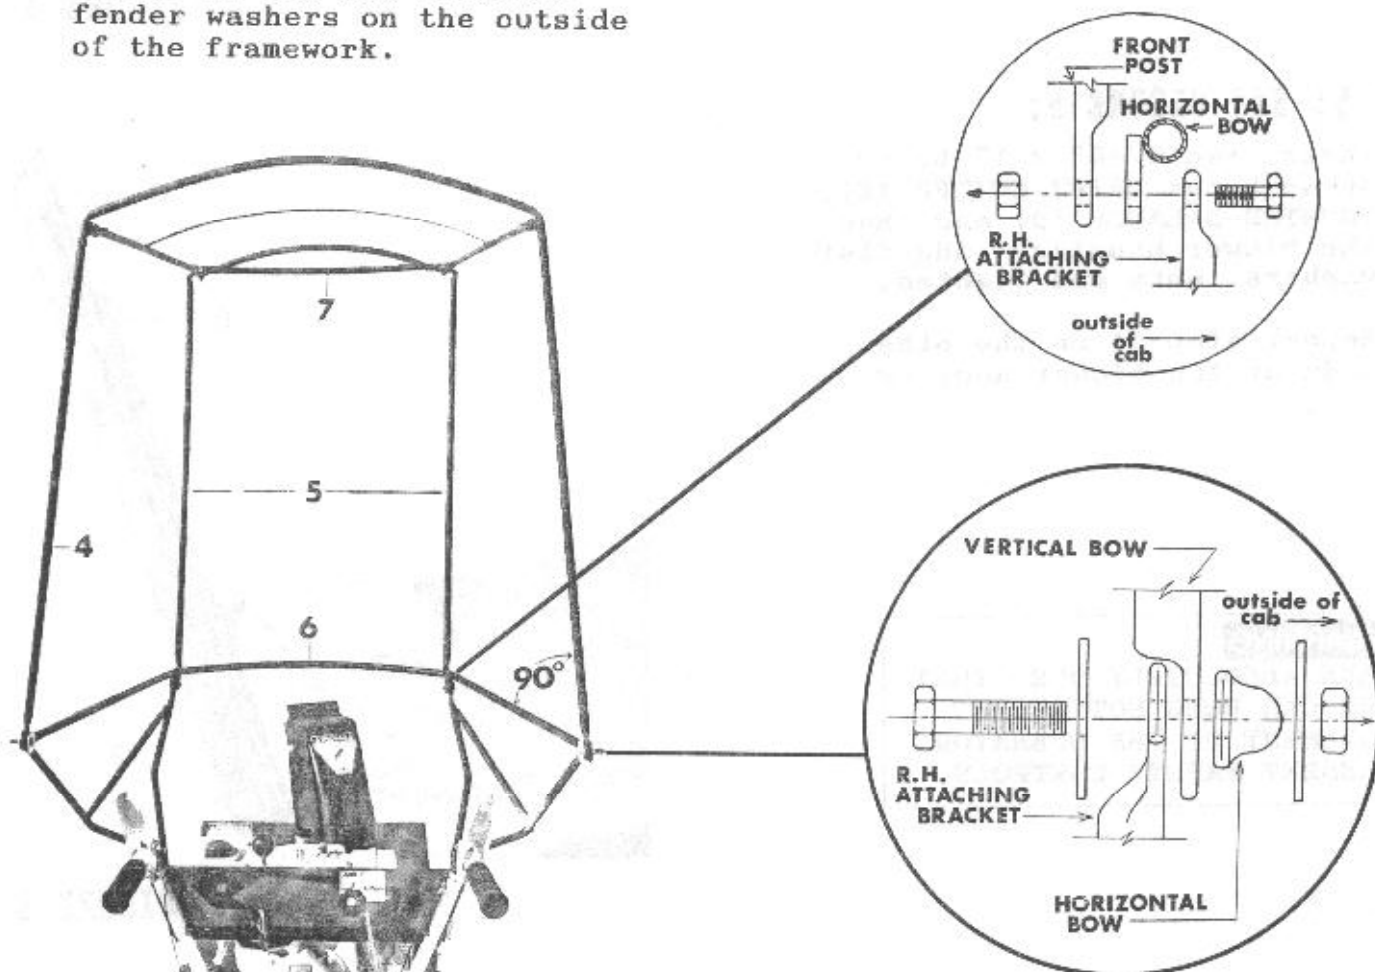

FIGURE 3
STEP 3; SEE FIGURE 3:
- A. Attach the HORIZONTAL BOW (6) and FRONT POSTS (5) to the brackets by using two bolts and locknuts. The mounting tabs on the horizontal bow should be between the attaching brackets and front posts with the attaching brackets on the outside. Be sure the top of the front posts are pointed towards each other. Keep the bolt heads on the exterior of the enclosure.
- B. Mount each leg of the REAR VERTICAL BOW (4) to the attaching brackets (1 & 2) and the horizontal bow (6) with a 1/4" x 1" bolt, a 1/4" fender washer, and a locknut. The bolt head should be on the inside of the cab with the fender washers on the outside of the framework.
- C. Attach the TOP FRAME (7) to the vertical bow (4) and the front posts (5) by using four bolts and locknuts. Keep these bolt heads on the outside of the cab.
- D. Tighten all bolts making sure that the rear vertical bow (4) is at a 90° angle to the horizontal bow (6).